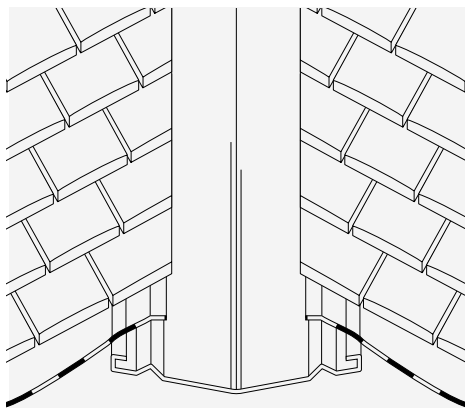

Fig. 13 – Metal valley construction for plain tiles
- 2 Nail all tiles and cut pieces adjacent to valley (Fig. 13) as per the fixing specification.